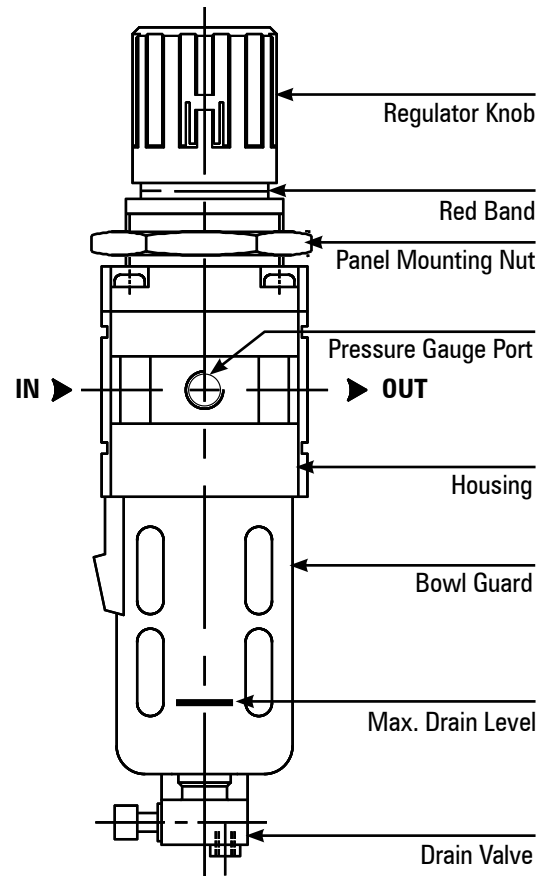

FIG. 1
1. To set the regulator, pull the regulating knob till "Red Band" (Indicator Ring) is visible (Fig.1).